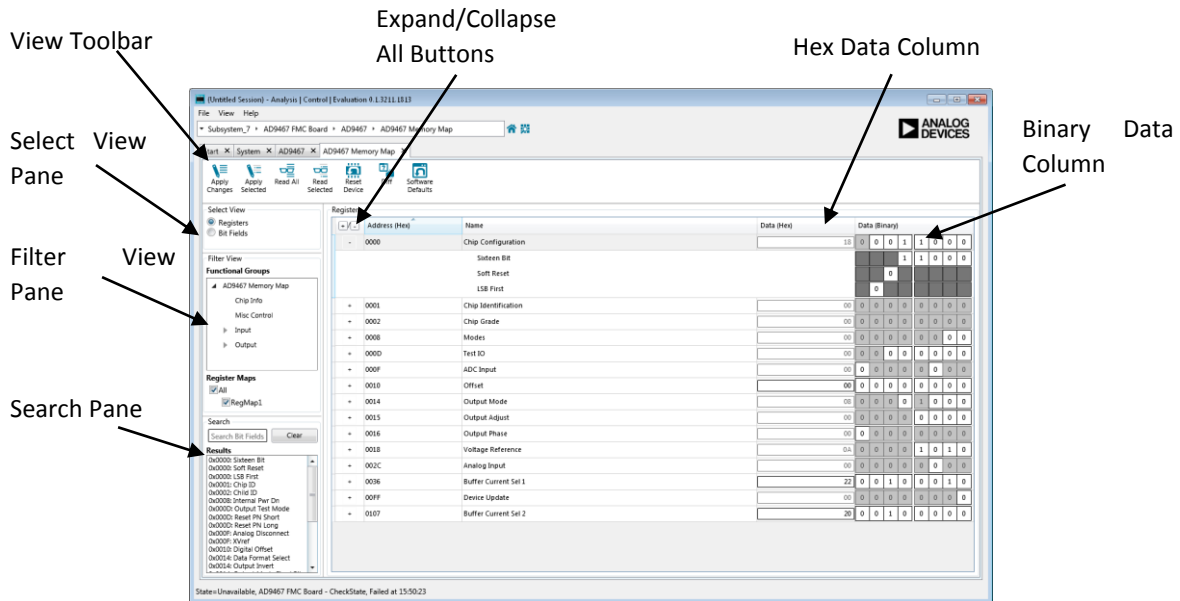

Figure 3.11 Memory Map View – Registers Visible
- **Registers View** – Displays all registers in the component, Figure 3.11. These registers can be expanded to show the bit fields within.
The Register view, Figure 3.11, allows you to configure registers at a bit level. The value can be changed either by changing the hexadecimal value in the hex data column or by clicking on individual bits in the binary data column. Registers can be expanded to show the bit fields that make them up and these bit fields can also be controlled by toggling the bits.
You can switch between viewing registers, Figure 3.11, and bit fields, Figure 3.12, by changing the selection in the select view pane on the left-hand side of the view.